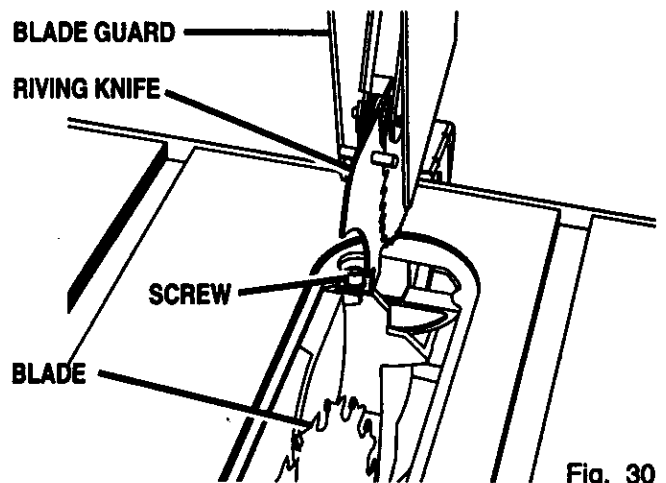

Fig. 30
- Loosen front screw on riving knife with a 5 mm hex key. See Figure 30.